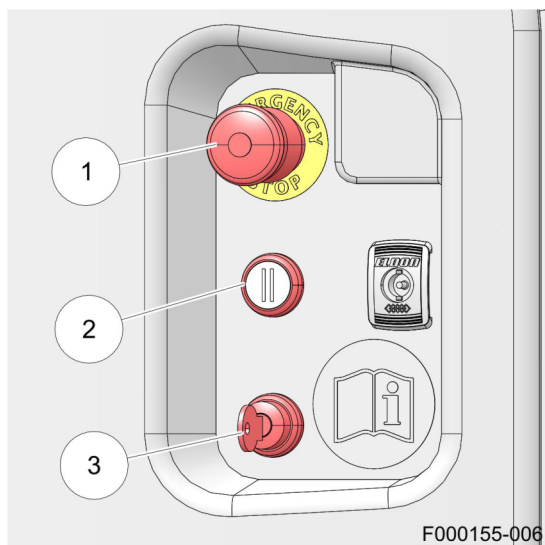

Figure 36. Safety key
5. Switch off the Mixing and Feeding Robot with the key (see figure 36 on page 5-10).
1. Turn the safety key (3) (see figure 36 on page 5-10) in the **OFF** position and remove the key. The Mixing and Feeding Robot generates an alarm: **Emergency button**.
1. Switch off the Mixing and Feeding Robot with the key (3) (see figure 36 on page 5-10).
1. Insert the safety key (3) (see figure 36 on page 5-10) and turn it to the **ON** position.